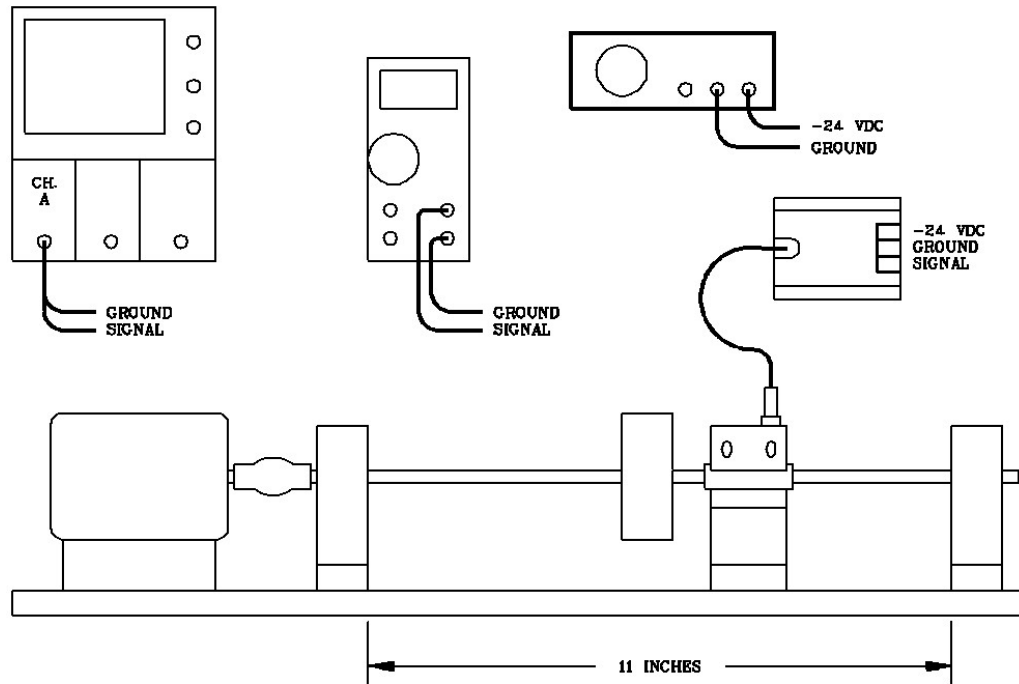

Fig. 1.1
Assemble the demonstration rotor using two (2) sleeve bearing assemblies, as shown in Figure 1.1. Install the single transducer in the mounting bracket in the vertical position.